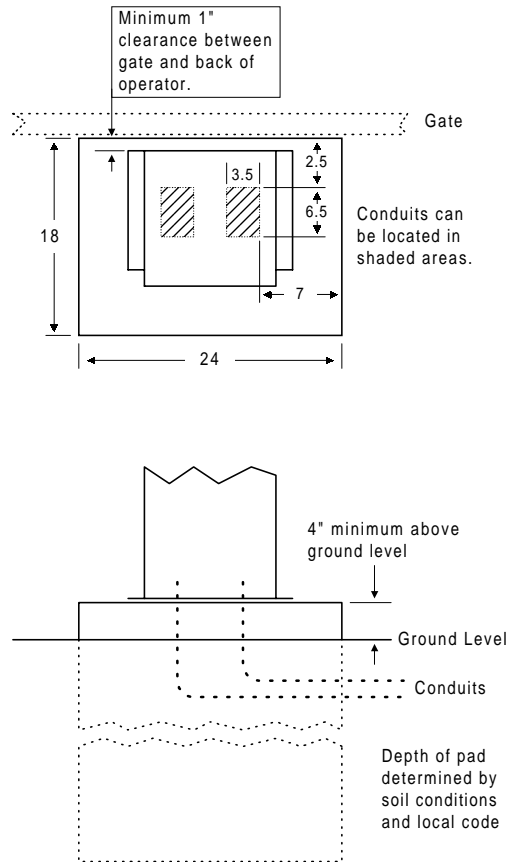

Figure 6
1. Construct a form for the mounting pad according to the specifications shown in figure 6. Be sure to level the top edge of the form and that the top of the form is a minimum of four (4) inches above ground level. We suggest that you contact the local building department to determine the required depth of the pad since soil conditions and code requirements vary from city to city.
2. Set conduits, reinforcing bars and/or wire mesh if required. The number of conduits is determined by the application requirements. We suggest using a minimum of four (4) conduits. 1-High voltage power lines; 2-Low voltage control lines; 3-Loop lead-in wires (open loop); 4-Loop lead-in wires (reverse loops). **See SECTION 2.** Set additional conduits as required for your application. NOTE: If conduits are not set in the pad, they can be routed to a J box where connections to the operator can be made after it is installed. There are three (3) ½-inch knockouts and one (1) ¾-inch knockout on each side of the operator for this purpose.